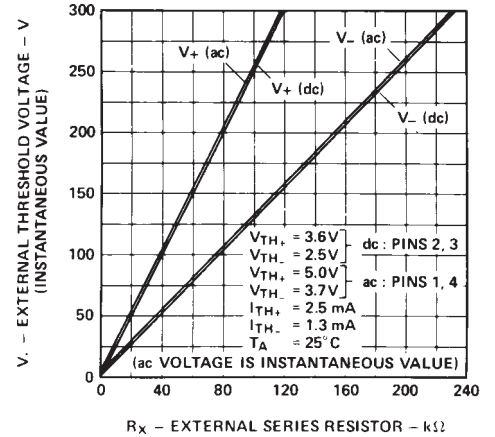
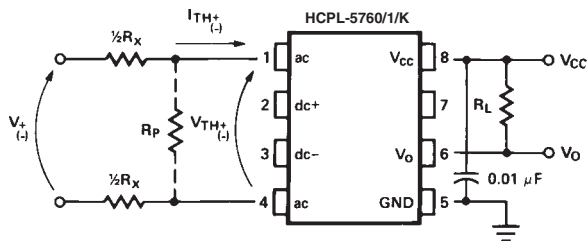

Figure 10. Typical External Threshold Characteristic,  $V_{\pm}$  vs.  $R_x$ .
Figure 11. External Threshold Voltage Level Selection.
The HCPL-5760, HCPL-5761, HCPL-576K or 5962-89477 optocoupler has internal temperature compensated, predictable voltage and current threshold points which allow selection of an external resistor,  $R_x$ , to determine larger external threshold voltage levels. For a desired external threshold voltage,  $V_{\pm}$ , a corresponding typical value of  $R_x$  can be obtained from Figure 10. Specific calculation of  $R_x$  can be obtained from Equation (1) of Figure 11. Specification of both  $V_+$  and  $V_-$  voltage threshold levels simultaneously can be obtained by the use of  $R_x$  and  $R_p$  as shown in Figure 11 and determined by Equations (2) and (3).